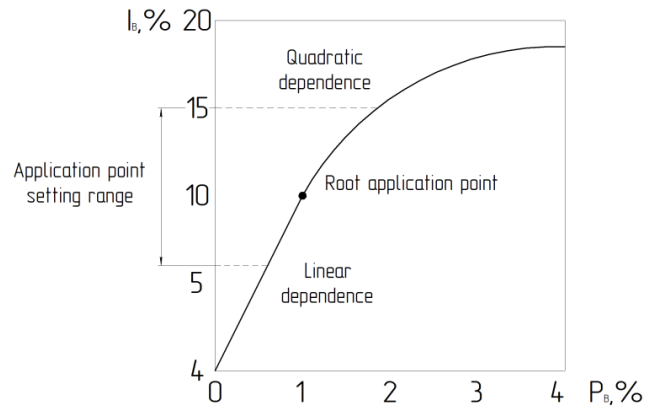

Figure 7 - SQLIN graph
«SQLIN» - Linear until specified point, then quadratic (item 1.2.9, figure 7);